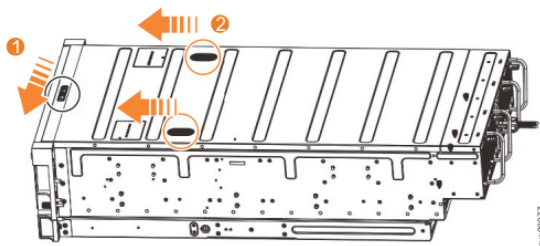

Figure 106. Releasing the 5U expansion enclosure cover
2. Slide the release latch (**1**) in the direction that is shown in Figure 106 on page 151.
3. Slide the cover toward the front of the expansion enclosure (2), as shown in Figure 106 on page 151.